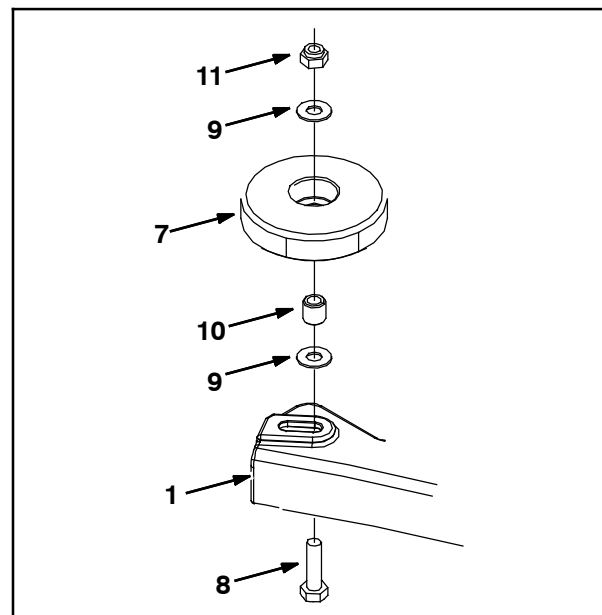

FIG. 2
4. Use the provided hex screws (8), flat washers (9), sleeves (10), and hex nuts (11) to install a bumper wheel (7) onto each end of the new squeegee frame (1). Refer to Fig. 2.